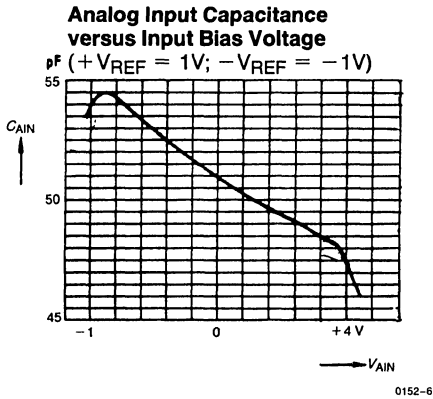

Figure 2
3. In good approximation the dependency on V_{AIN} is linear (See Figure 2).